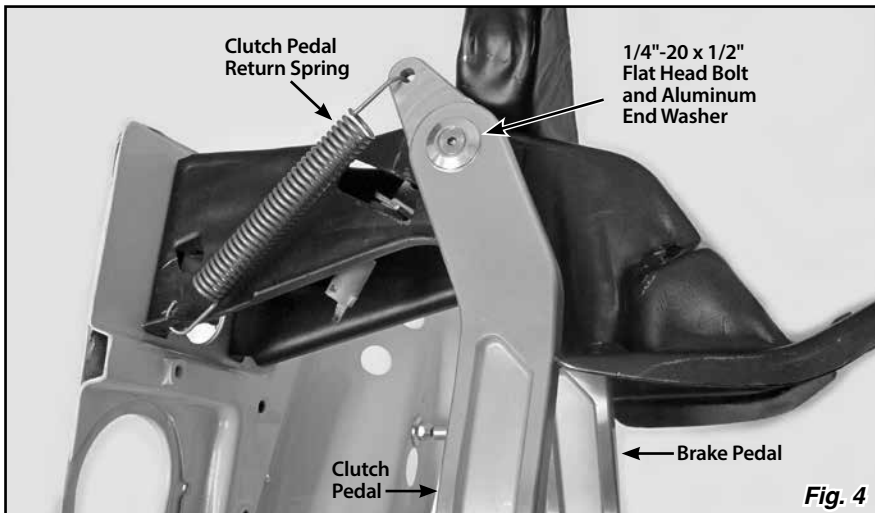

Fig. 4
Step 4: Install the Clutch Pedal onto the left hand end of the splined shaft. Install the aluminum end washer onto the left hand end of the splined shaft. Connect one end of the return spring to the hole at the very top of the Clutch Pedal, and connect the other end to the hole in the pedal hanger bracket near the firewall. **Fig. 4**